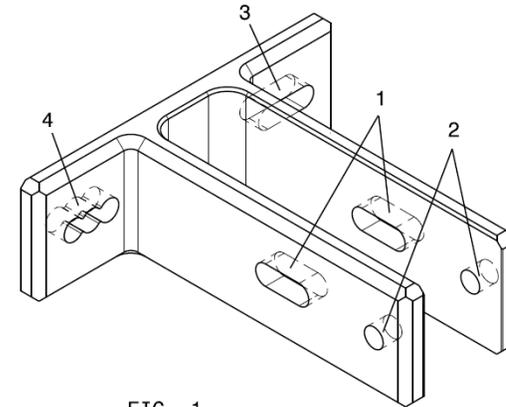

FIG. 1
7. Gently remove the (2) old wall anchors using the previously installed wall fasteners. Thread them into the anchors by hand and pull the anchors from the wall.
8. If the anchors from the kit are to be installed, enlarge the (2) holes in the wall to a 5/16" diameter using a bit and electric drill. If the holes in the wall are too large to accept the anchors included with the kit, alternate wall hardware should be used. Large anchors can be purchase through mail order or large self-drilling toggle bolts can be purchased at a hardware store. The Fix-a-Stall brackets will accommodate up to a #14 sheet metal or ¼" machine screw. (#12 sheet metal screws are include with the kit.)
10. Slide the new Fix-a-Stall bracket into place with the engraved letters right-side-up. Install the first #12 sheet metal screw into the wall through one of the three holes (Fig. 1, #4). Use the one that aligns best to the anchor when the partition is properly positioned. Next, install the second #12 screw into the anchor through the slot (Fig. 1, #3). Lightly snug both fasteners using a Phillips screwdriver (#3 Phillips bit is preferred) If the hole in partition is outside the area of the groove, it should align with one of two sets of dimples. (This is rare but possible.) Use the dimple as a guide and drill each side of the bracket using a ¼" diameter bit. Use the existing bracket hole Fig. 1, #2) or the other dimple to location the other hole location, whichever is farthest from the pre-existing hole.
11. Install the ¼" diameter binding bolt into the partition hole through the bracket slots (Fig. 1, #1). Tap gently with a small hammer as necessary. If the partition width is less than 1" thick, use the included washers to evenly shim between the sides of the partition and the bracket flanges.
12. Using a sharp ¼" diameter bit, match drill the partition using the holes in the bracket (Fig.1, #2). Drill each side separately. Then drill all the way through.
13. Install the second binding bolt through the partition and bracket (Fig.1, #2). Tap gently with a small hammer as necessary. If the partition width is less than 1" thick, use the included washers to evenly shim between the sides of the partition and the bracket flanges.